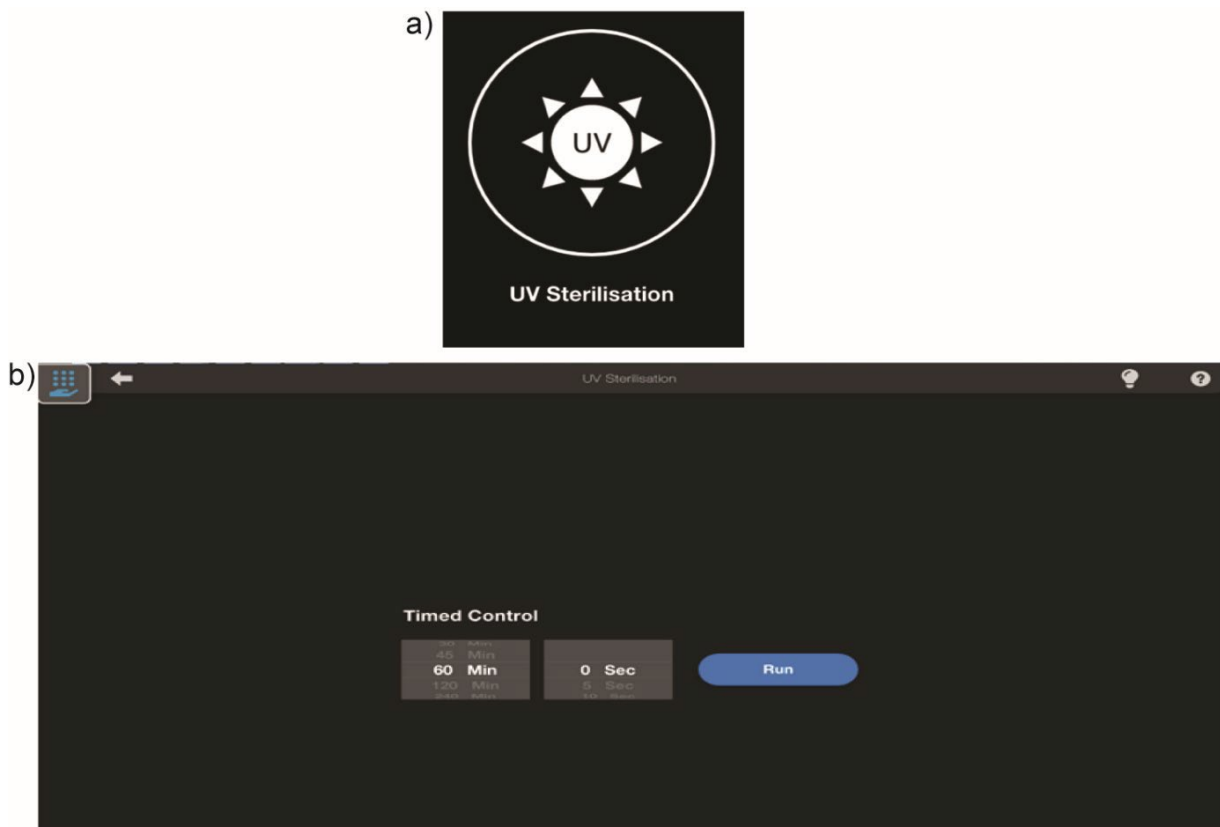

Figure 5.11 UV light function
3. Click on "UV Sterilisation" icon (Figure 5.11)